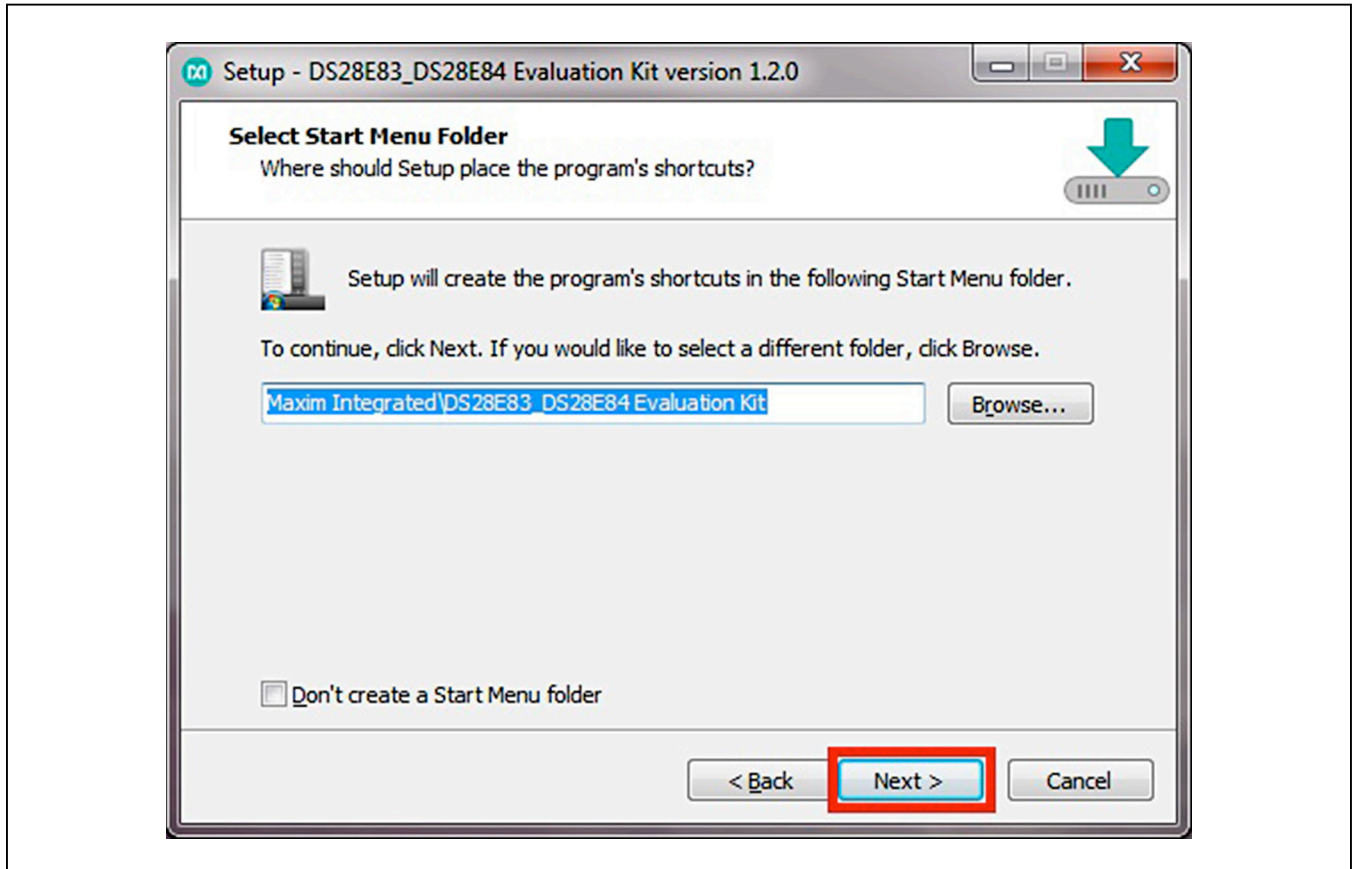

Figure 3. Program Shortcuts Location
5) Click **Next** to install shortcuts to the default folder (Figure 3).